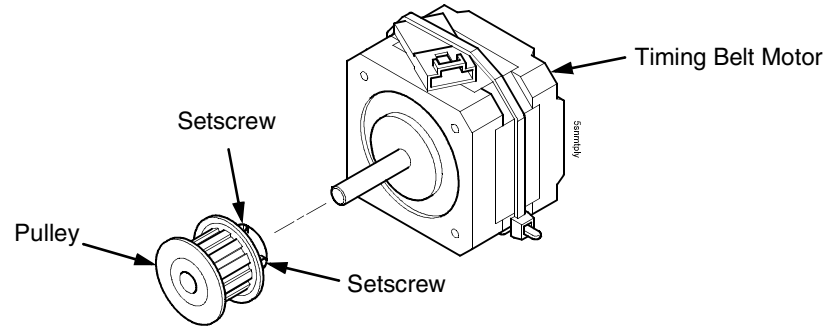

Figure 85. This figure shows how to remove the pulley from the timing belt motor.
5. Loosen the two setscrews on the motor pulley and remove the pulley. Unplug the motor cable, if necessary. (Figure 85.) Go to step 6.